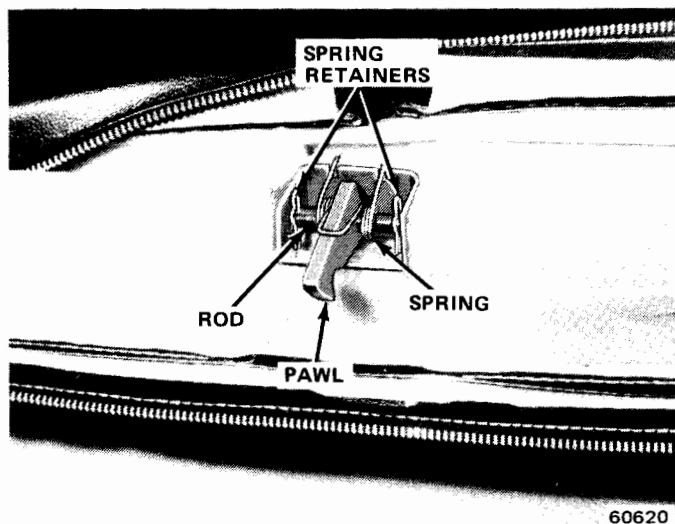

Fig. 19-2 Tilt Lock Pawl Assembly
- (1) Remove forward tilting seat back.
- (2) Remove screw attaching release handle-to-latching rod using Torx Bit Tool J-25359. Remove handle.
- (3) Remove screws attaching plastic bumpers using Torx Bit Tool J-25359. Remove bumpers.
- (4) Unzip upholstery and pull back.
- (5) Remove spring retainers attaching latching rod (fig. 19-2).
- (6) Remove rod, pawl, and spring from seat.